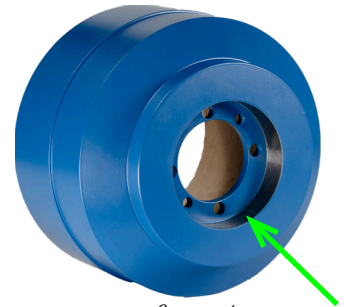

figure 4
9. Place a thin coat of anti-seize paste on the magnet drive hub on the unpainted fit diameter. See figure 4.